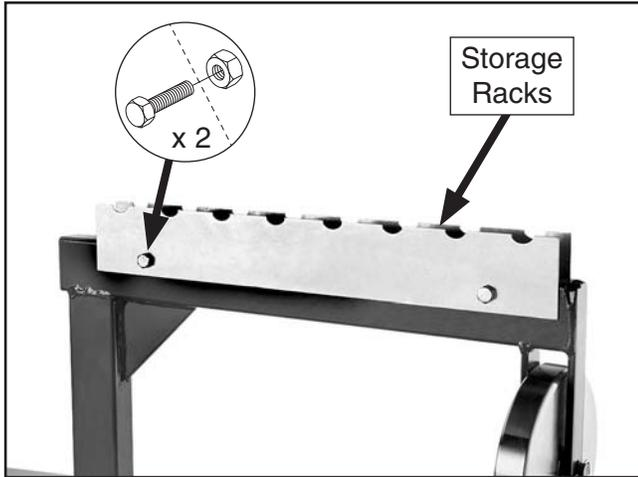

Figure 9. Storage racks installed.
6. Attach the lower wheel storage racks to the frame top with (2) $\frac{1}{4}$ "-20 x $1\frac{1}{4}$ " hex bolts and (2) $\frac{1}{4}$ "-20 hex nuts (see **Figure 9**).